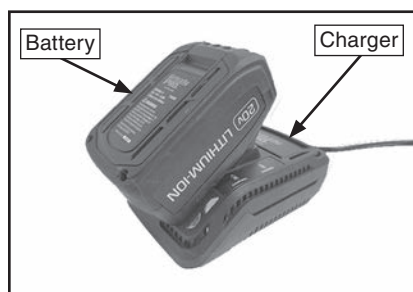

Figure 6. Battery charging in Model T30302 Fast Charger (not included).
3. Slide battery into charger until battery clicks in place (see **Figure 6**). Red light will illuminate while battery is charging. When green light illuminates, battery is fully charged.